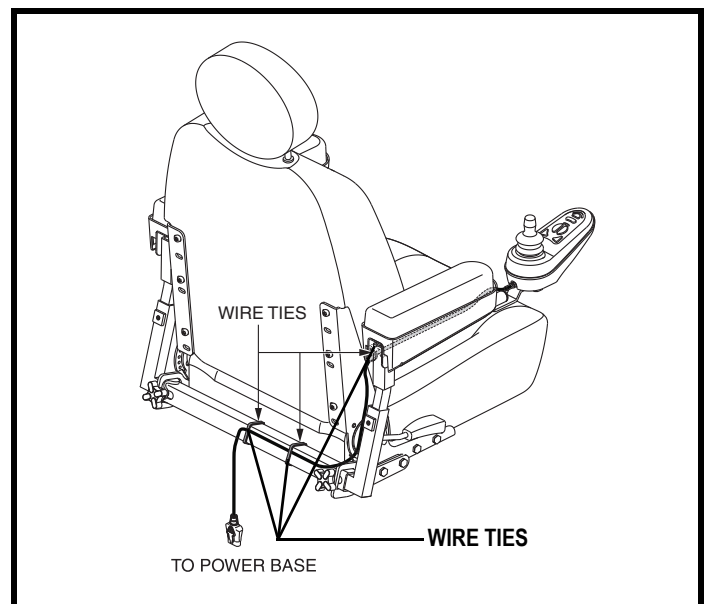

Figure 12. Controller Harness Routing
7. Secure the controller harness to the armrest receiver with wire ties. See figure 12.
17. Secure the controller harness with wire ties. See figure 12.
9. Secure the controller harness with wire ties. See figure 12.